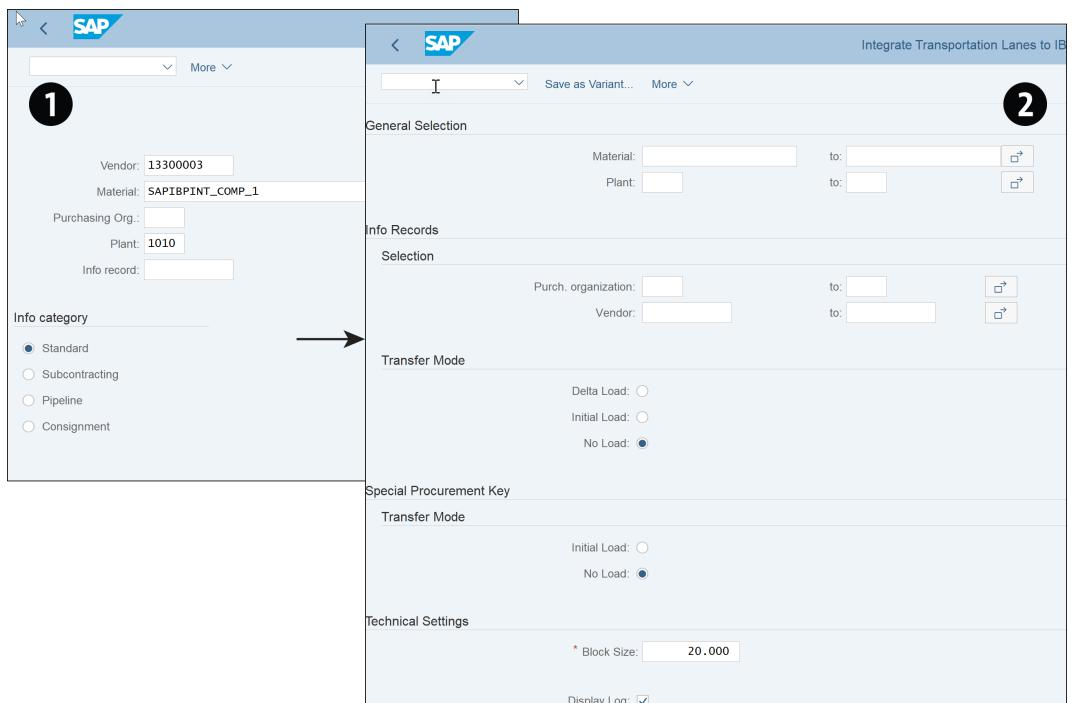

Figure 2.5 Integrating Purchasing Info Record Transactions as Transportation Lanes in SAP IBP
To integrate transportation lanes, go to Transaction /IBP/ECC_INT_TLANE, or navigate to **SAP Menu • Logistics • Central Functions • Supply Chain Planning Interface • Integrated Business Planning • Integration Model • Data Transfer • Initial Load of Master Data • Integrate Transportation Lanes to IBP**. This transaction allows you to integrate purchasing info records (Transactions ME11/ME12) ① as transportation lanes to staging table /IBP/TLANE_EXT ②. Figure 2.5 shows the side-by-side screenshots of these transactions.